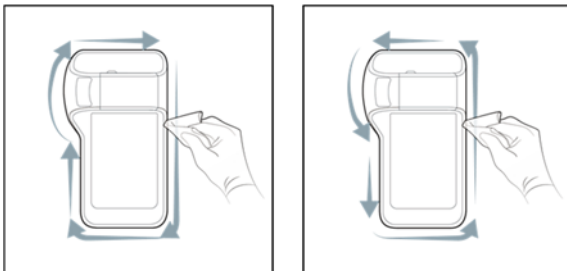

Figure 11. Wipe the meter frame
8. Follow the Figure 11 to wipe the meter frame.